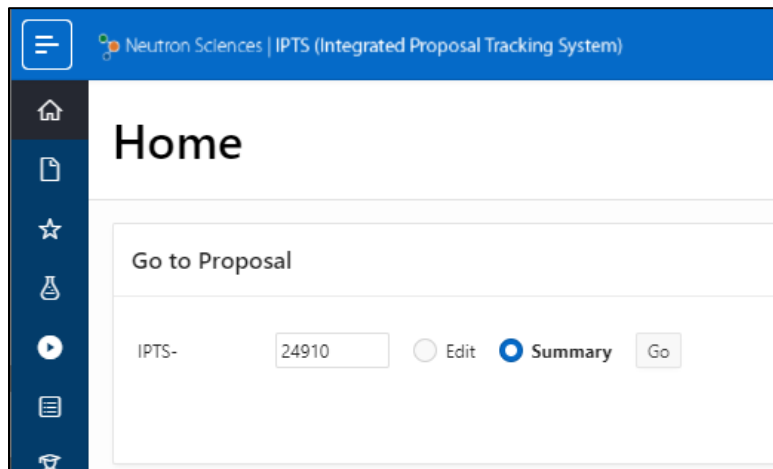

Figure 1. IPTS home screen, showing how to go to your proposal view.
1. Log on to IPTS (<https://snsapp1.sns.ornl.gov/xprod/f?p=100:1>) and navigate to your proposal by entering the proposal number under “Go to Proposal” and clicking “Go” (Figure 1).